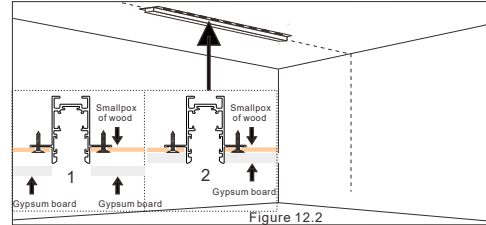

Figure 12.2
3. The ceiling of the embedded high-side track is fixed, and the sides of the track are installed with 12 mm thick plasterboard or plank to cover the side of the track; (See Figure 12.2)